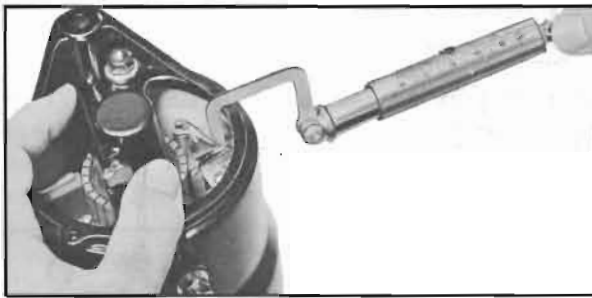

Figure 10-13—Checking Brush Spring Tension
2. After the commutator end frame is installed to support the armature check the tension of both brush springs, using Brush Tension Checking Scale J 5184. See figure 10-13.